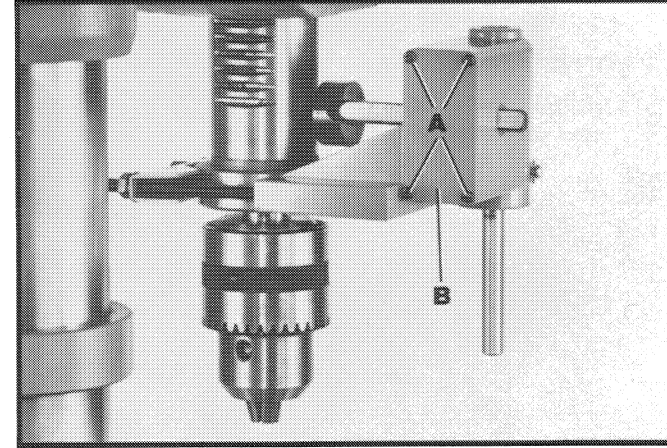

Fig. 13
11. Replace rear cover (B) Fig. 13, and four screws (A) which were removed in STEP 2.